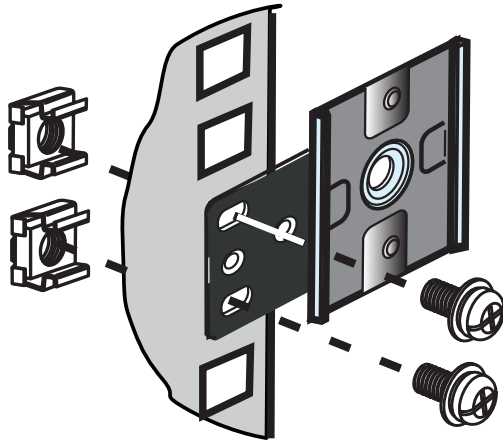

Figure 12. Attaching the Rotated Clip to the Rail
6. Locate the two clip feet and four M6 screws (supplied). Turn the straight part of the bracket 90° (see Figure 12).